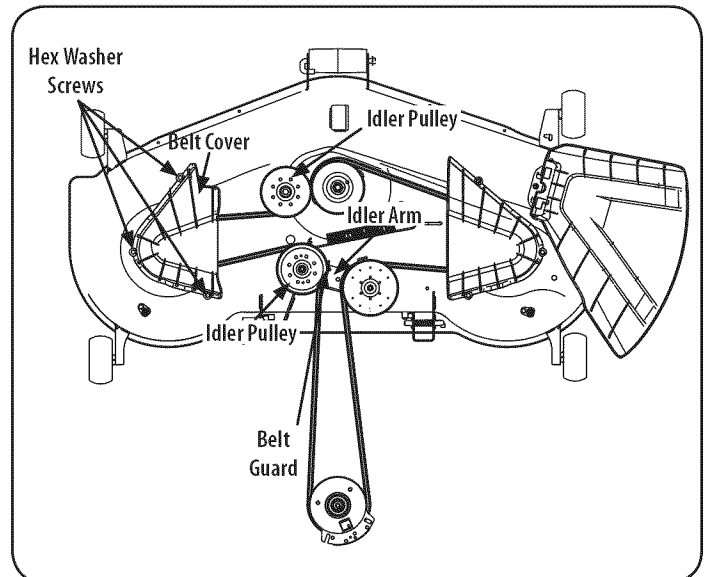

Figure 36
2. Remove the hex washer screws securing the belt covers to the deck. See Figure 36.
- Install the new belt around the spindle pulleys as shown and reinstall the belt covers. See Figure 36.
- Route the belt as shown in Figure 36 and then reinstall the deck (refer to Deck Installation).